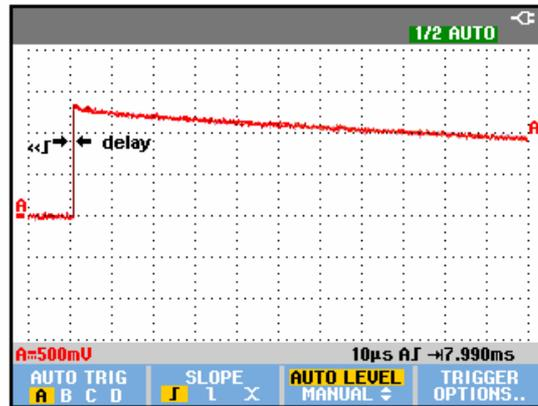

Figure 4-7. Time Base Verification
5. Examine the rising edge of the time marker pulse at the height of the trigger level indicator top. Verify that the rising edge is at the second grid line from the left. The allowed deviation is ±3 pixels, see Figure 4-7.
9. Examine the rising edge of the time marker pulse at the vertical height of the trigger level indicator top. Verify that the rising edge is at the second grid line from the left. The allowed deviation is  $\pm 3$  pixels, see Figure 4-7.